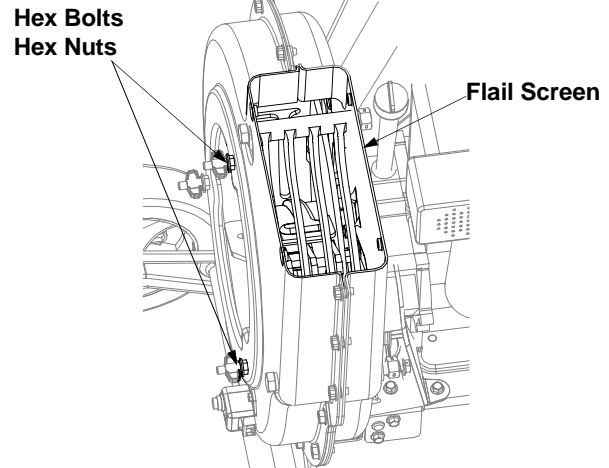

Figure 12
- Remove the two hex bolts and hex nuts which extend through the impeller housing. Lift the flail screen from inside the housing. See Figure 12.